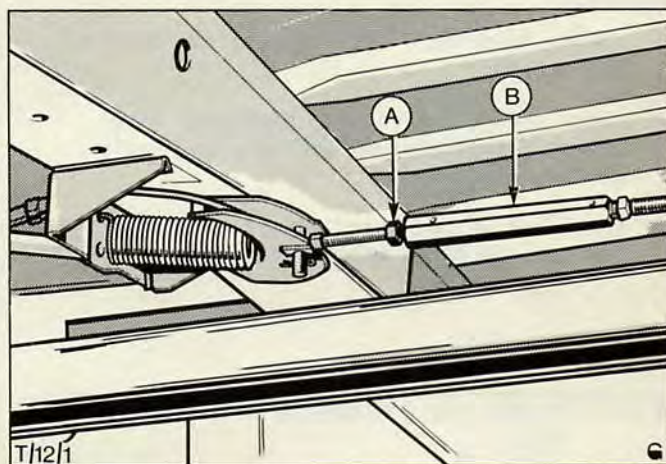

Fig.64. Handbrake adjuster.
4. Determine number of teeth on handbrake lever. This can be achieved by pulling the lever up one 'click' and measuring the distance vertically from the lever button to the floor covering. If the distance is more than 200 mm (7,8 in) an eight (8) tooth ratchet is fitted. If the distance is less than 200 mm (7,8 in), an eleven (11) tooth ratchet is fitted.
5. Release lever, pull up lever six (6) 'clicks' on an eleven (11) toothed ratchet and three (3) clicks on the eight toothed ratchet.
7. Ensure visible threads are equal in length on both sides of the adjuster, and thread is visible through the holes in the adjuster, Fig.64.